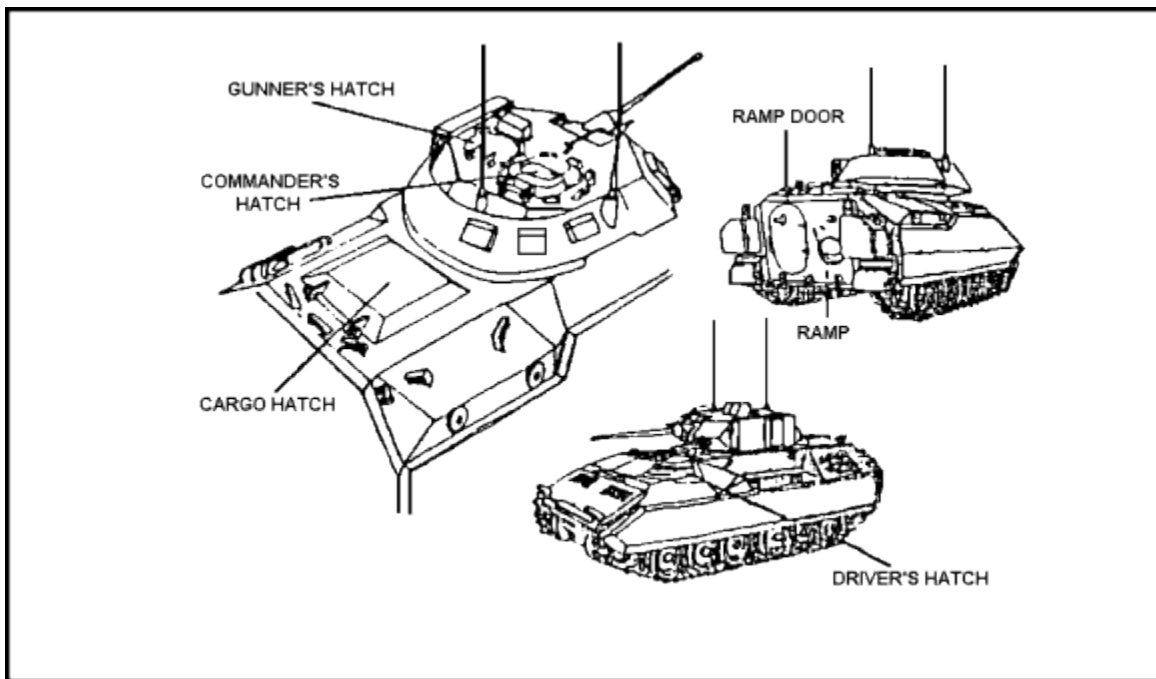

Figure 1-37. BFV dismount points
(4) Crew and Troop Compartments. The BFV carries nine men. The Bradley commander (BC) and the gunner ride in the turret. The driver rides in the left front station. The other six men ride in the rear troop compartment. Vision blocks are available so that all soldiers can view a portion of the battlefield. The BC and the gunner can operate all the turret weapons. As shown in Figure 1-37, personnel can mount or dismount the vehicle through six points: